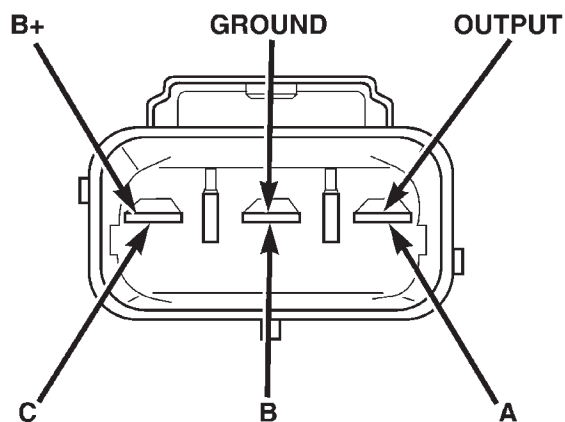

Fig. 26 Sensor Connector—8.0L Engine
- (1) Disconnect the sensor connector at sensor.
- (2) Place an ohmmeter across terminals B and C (Fig. 26). **Ohmmeter should be set to 1K-to-10K scale for this test.** The meter reading should be open (no resistance). Replace sensor if a low resistance is indicated.